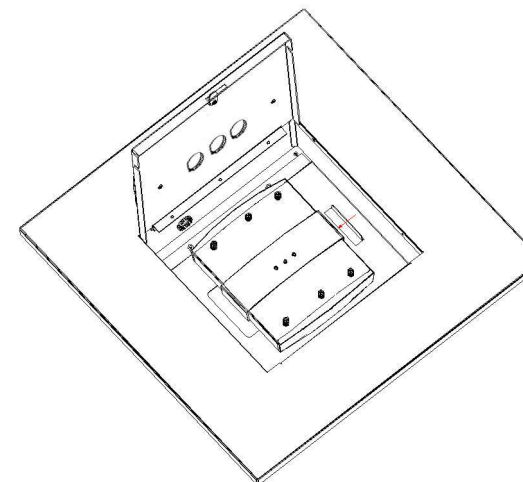

Figure 4 - Lock AP in Place
Step 4 – After the AP is set in the enclosure, lock it in place by sliding the enclosure's locking plate toward the AP until you feel it "click" (the locking plate will slide approximately 1/2"). Pull up on the AP to verify that it is properly latched. If you feel the AP lift from the enclosure, open the locking plate and adjust the AP so that all four feet fall into the key slots, then slide the locking plate back into position (reference *Figure 4*).